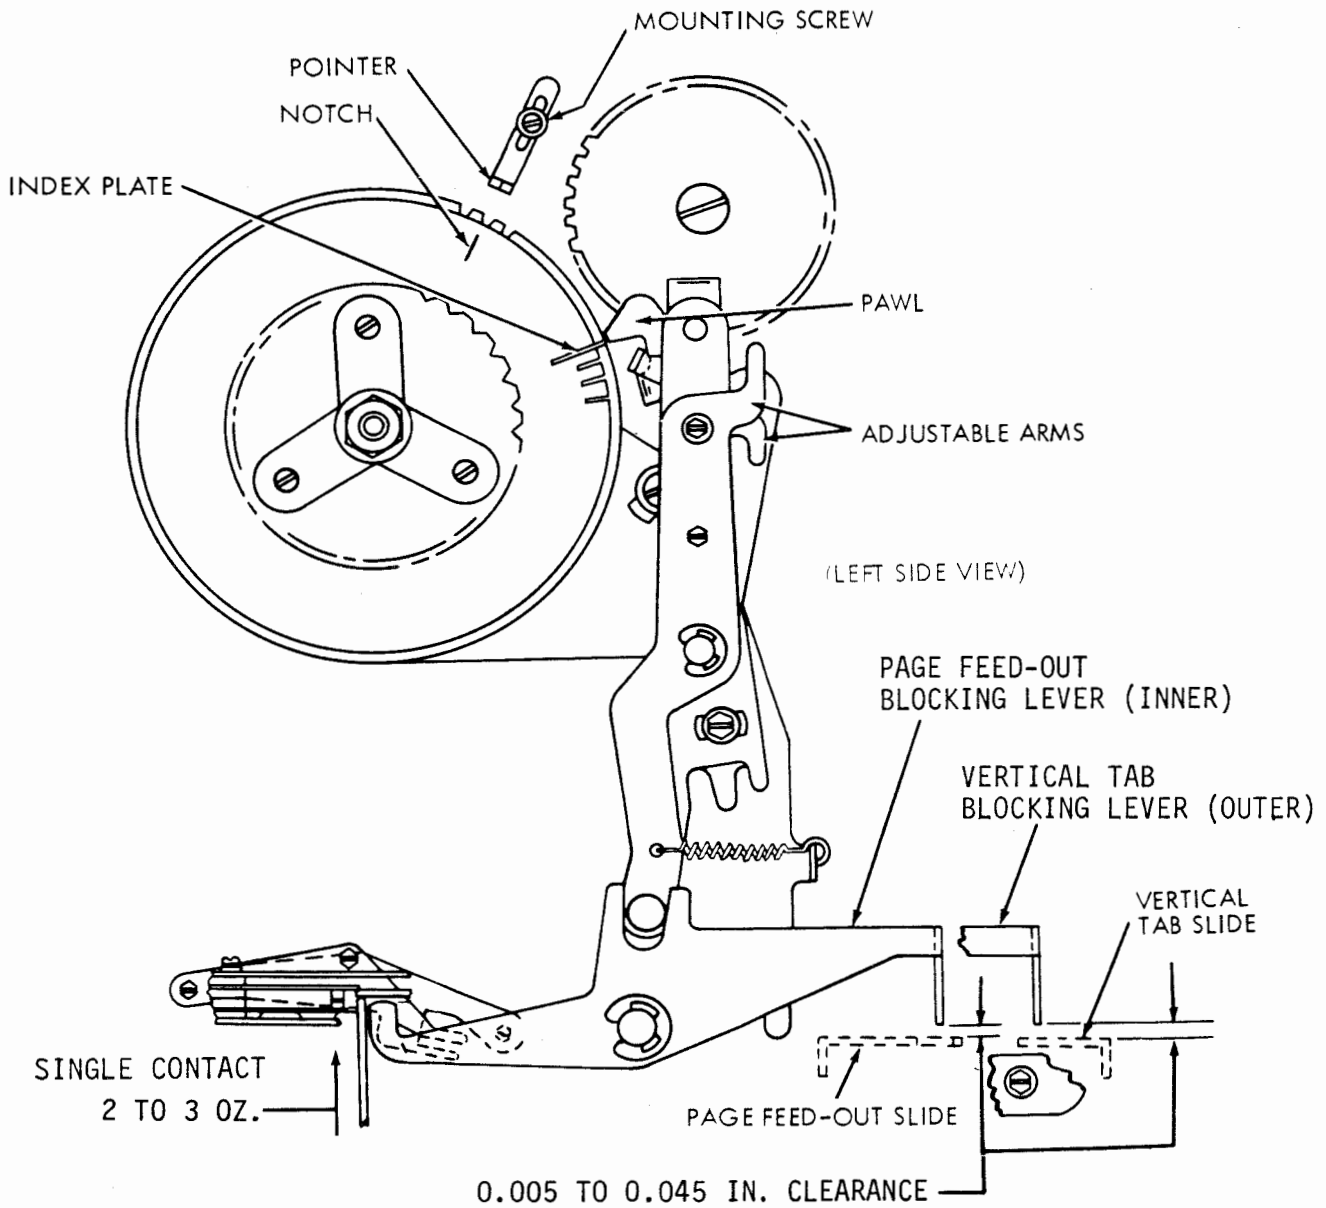
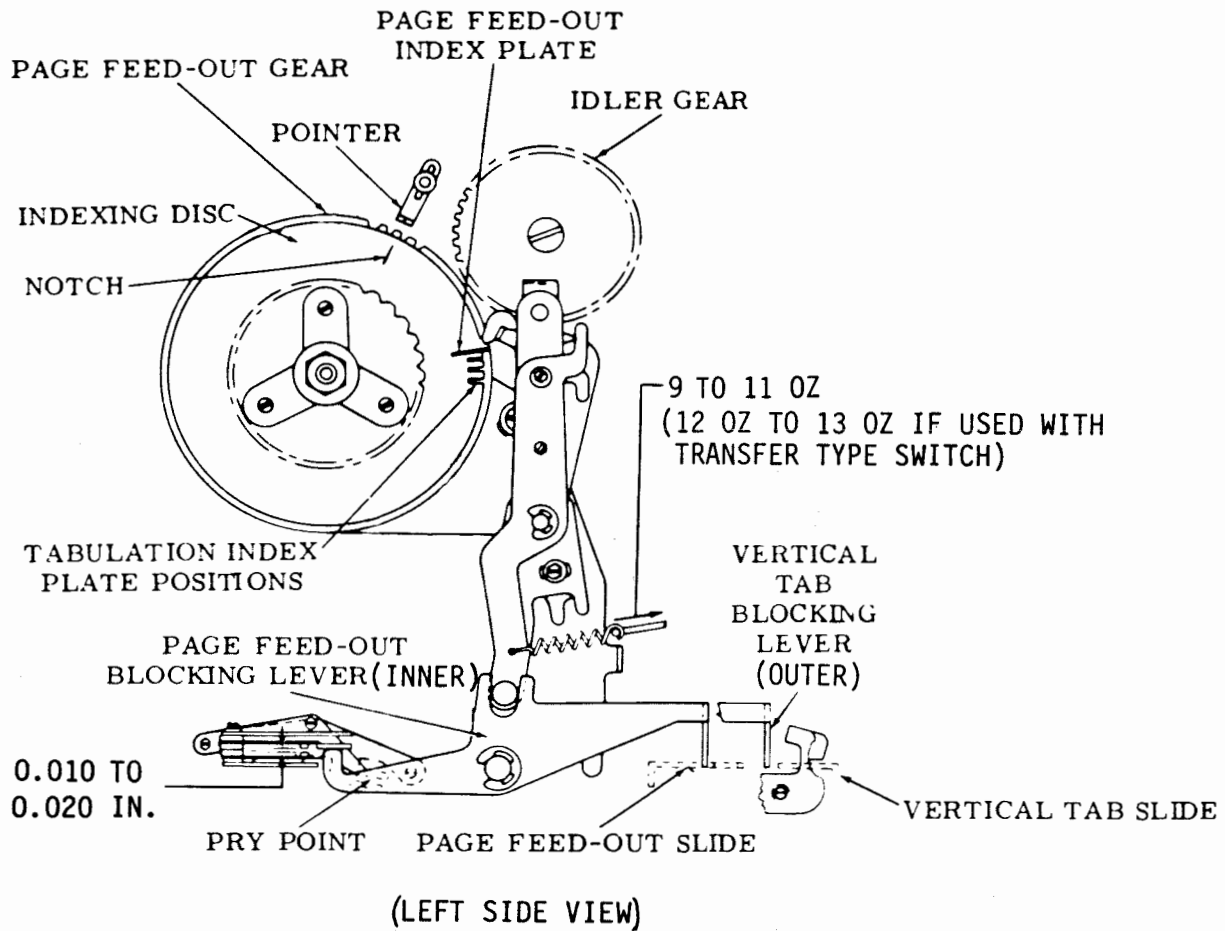

Figure 6-221. Blocking Lever, Pointer, and Switch Contact Pressure
Figure 6-222. Transmitter Control Switch for Signal-Contact Type Control, Tabulation Index Plate Position, and Blocking Lever Spring
(a) Refer to figure 6-221.
(3) Switch Contact Pressure (Transmitter Control Only). Adjust switch contact pressure as follows:
- (a) Refer to figure 6-221.
(4) Transmitter Control Switch for Single-Contact Type Control (Transmitter Control Only). Adjust transmitter control switch as follows:
- (a) Refer to figure 6-222.
(a) Refer to figure 6-222.